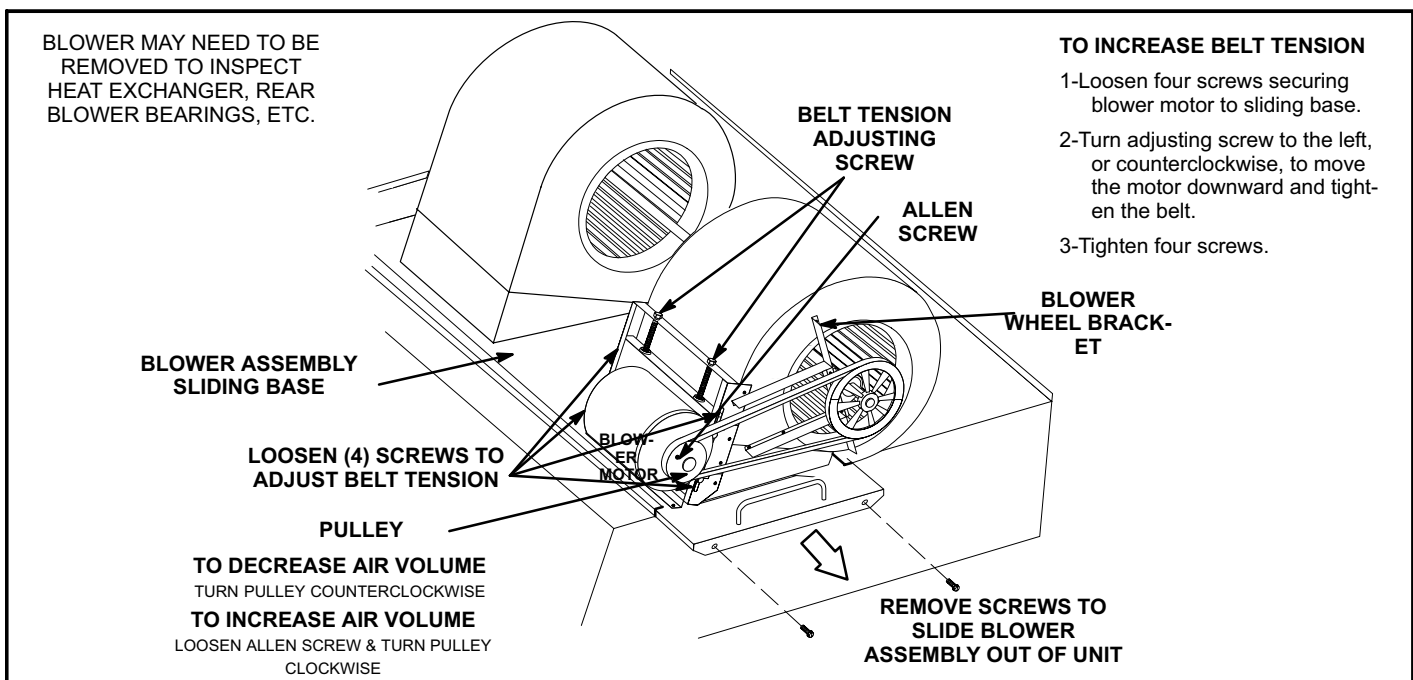

FIGURE 14
The blower compartment in all LGA/LCA/LHA units is located between the evaporator coil and the compressor / control section on the opposite side of the condenser coil. The blower assembly is accessed by disconnecting the blower motor jack plug J98/P98 (and all other plugs) and removing the screws on either side of the sliding base. The base pulls out as shown in figure 14.
- 5- The RPM can be adjusted at the motor pulley. Loosen Allen screw and turn adjustable pulley clockwise to increase RPM. Turn counterclockwise to decrease RPM. See figure 14.
- 1- Loosen four screws securing blower motor to sliding base. See figure 14.